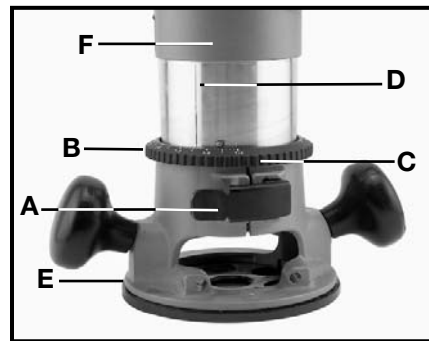

Fig. 3
2. Open the clamp (A) Fig. 3.
3. Hold the base (E), and turn the motor unit (F) Fig. 3 **COUNTER-CLOCK-WISE** until the tip of the bit is above the bottom of the base.
5. Turn the motor unit (F) Fig. 3 **CLOCKWISE** until bit touches the work.
6. Close the clamp (A) Fig. 3.
7. Rotate the depth adjusting ring (B) Fig. 3 until the zero-line (C) is opposite the index line (D) on the housing.
8. Open the clamp (A) Fig. 3.
9. Tip the router so that the bit is clear of the wood surface. Turn the motor unit (F) Fig. 3 **CLOCKWISE** until the index line (D) on the motor housing reaches the desired depth indicated on the ring.
10. Close the clamp (A) Fig. 3.